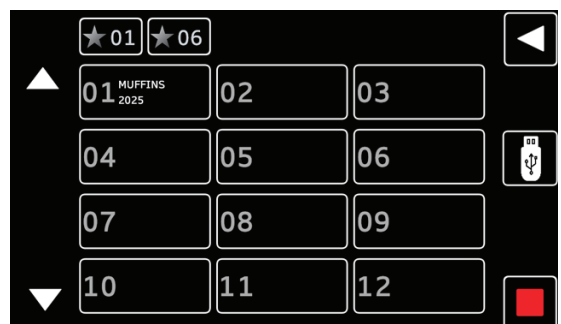

Figure 16-5.
3. Select the recipe number you want to run. (Figure 16-5).